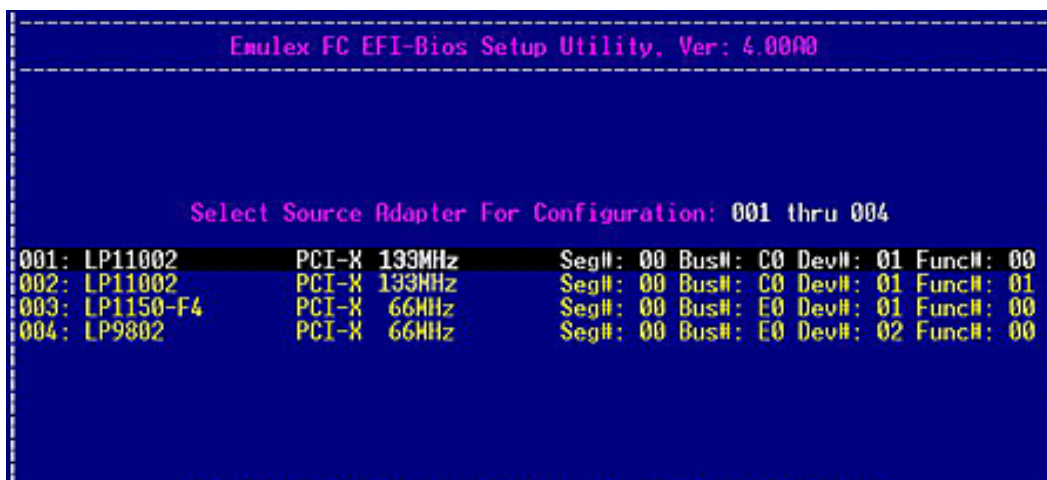

Figure 6-34 Select Source Adapter for Configuration Listing Screen
2. Select **1. Read Configuration from NVRAM** and press **<Enter>**. A list of the adapters in the system is displayed (Figure 6-34).